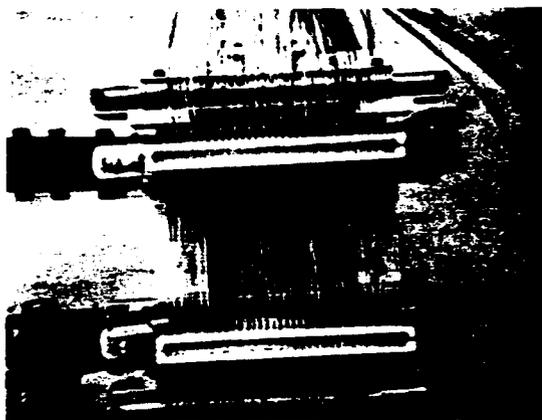

FIG. 30 COMBINING THE HOUSING AND MANDREL (PAR. 3.319)
4.319 Press the housing firmly over the mandrel to fully insert the mandrel in the housing. The spring loaded mandrel retainers will CAM outward to release the mandrel. The mandrel and housing latches will audibly snap in this operation and indicate seating of the mandrel in the housing. See Fig 30.